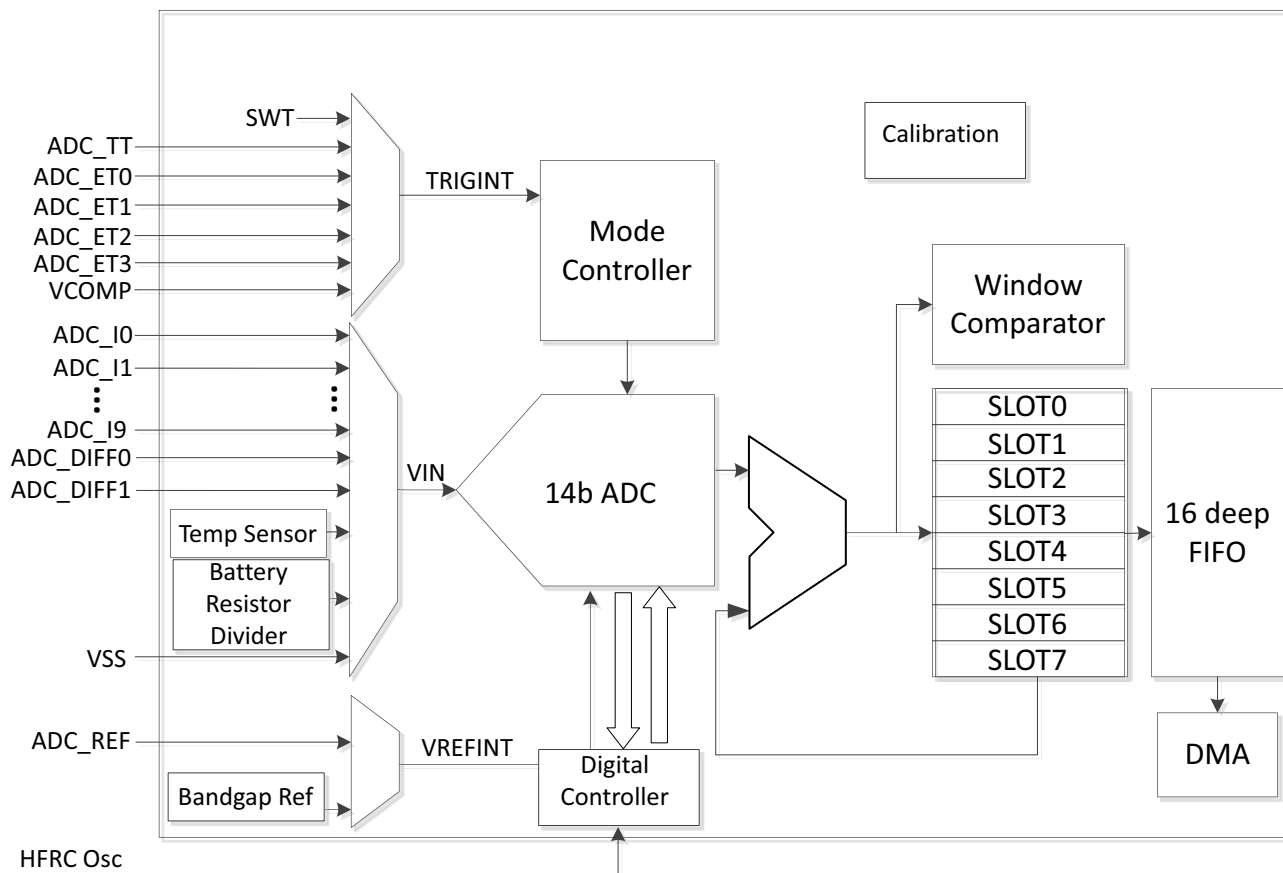

Figure 92. Block Diagram for ADC and Temperature Sensor
The Analog-to-Digital Converter (ADC) and Temperature Sensor Module includes a single-ended 14 bit multi-channel Successive Approximation Register (SAR) ADC as shown in Figure 92.
As shown in Figure 92, the ADC block contains a channel analog multiplexer on the input port to the analog to digital converter. Twelve (12) of the GPIO pins on the Apollo3 Blue MCU can be selected as analog inputs to the ADC through a combination of settings in the PAD configuration registers in the GPIO block and settings in the configuration registers described below.